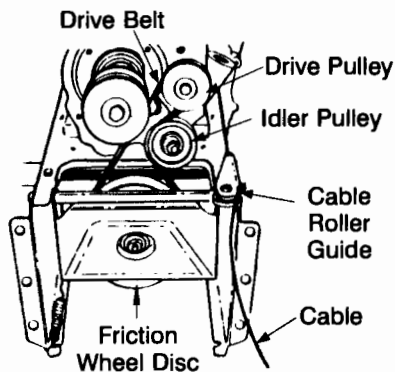

FIGURE 29
NOTE: When reassembling the two halves of the unit, the auger drive cable must be routed through the cable roller guides as shown in Figure 29.
engine and under the belt cover that you removed earlier. See Figure 29.
- Slip belt between friction wheel and friction wheel disc. See Figure 29. You may have to twist the belt flat in order to slide it through the clearance between the friction wheel and the friction wheel disc. Remove the belt completely.